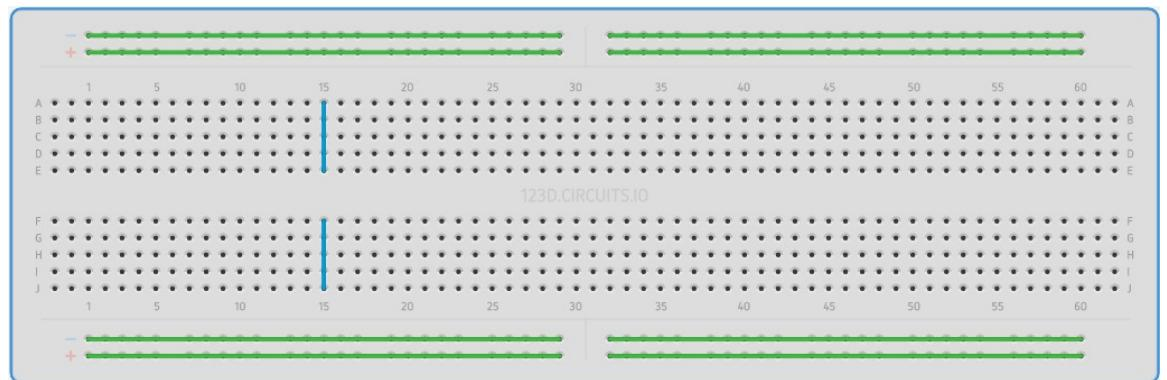

Figure 1.2.1.1: Breadboard
1.2.1. Connect the 5V pin of the Vaman-ESP32 to an extreme pin of the Breadboard shown in Fig. 1.2.1.1. Let this pin be V_{cc} .